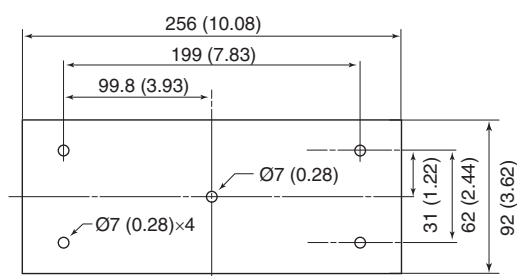

Fig. 1
- ① Hold the mounting bracket up to the selected location and mark pilot holes for the five installation holes using the template.
- ② Drill five holes, 7 mm (0.28 in) in diameter as shown in the diagram. (Fig. 1)